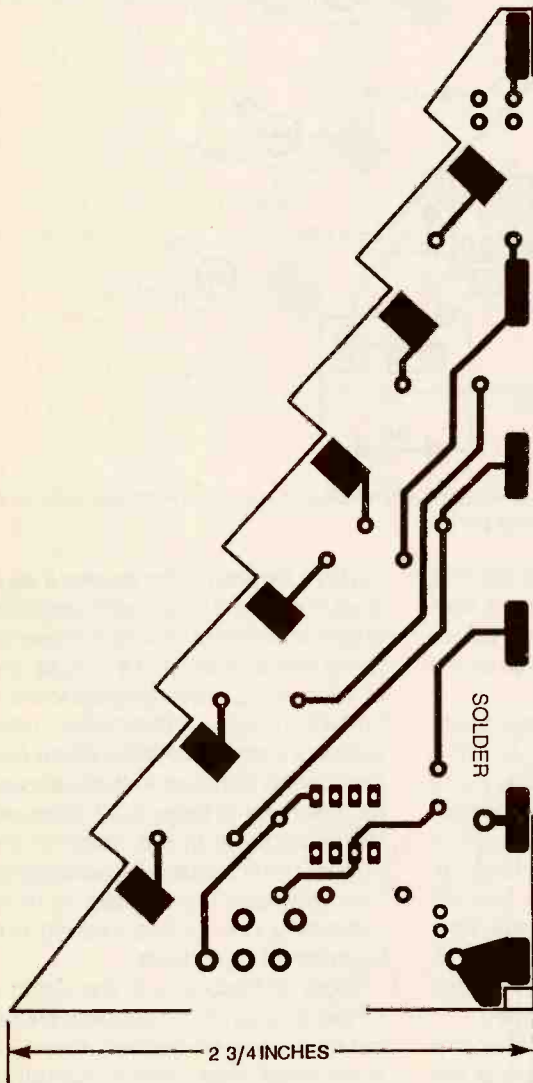

Fig. 2. Here's the foil side of the Tree's PC Pattern. It is shown here full size.
**Construction.** Building the Tree is relatively straightforward. The pattern for the foil side of the PC board is shown in Fig. 2; the component side's pattern is shown in Fig. 3. Remember, the complete tree requires three of these boards, and aside from S1, B1, and LED7, three sets of parts. If you prefer, boards, kits, and assembled units are also available from the source given in the Parts List.